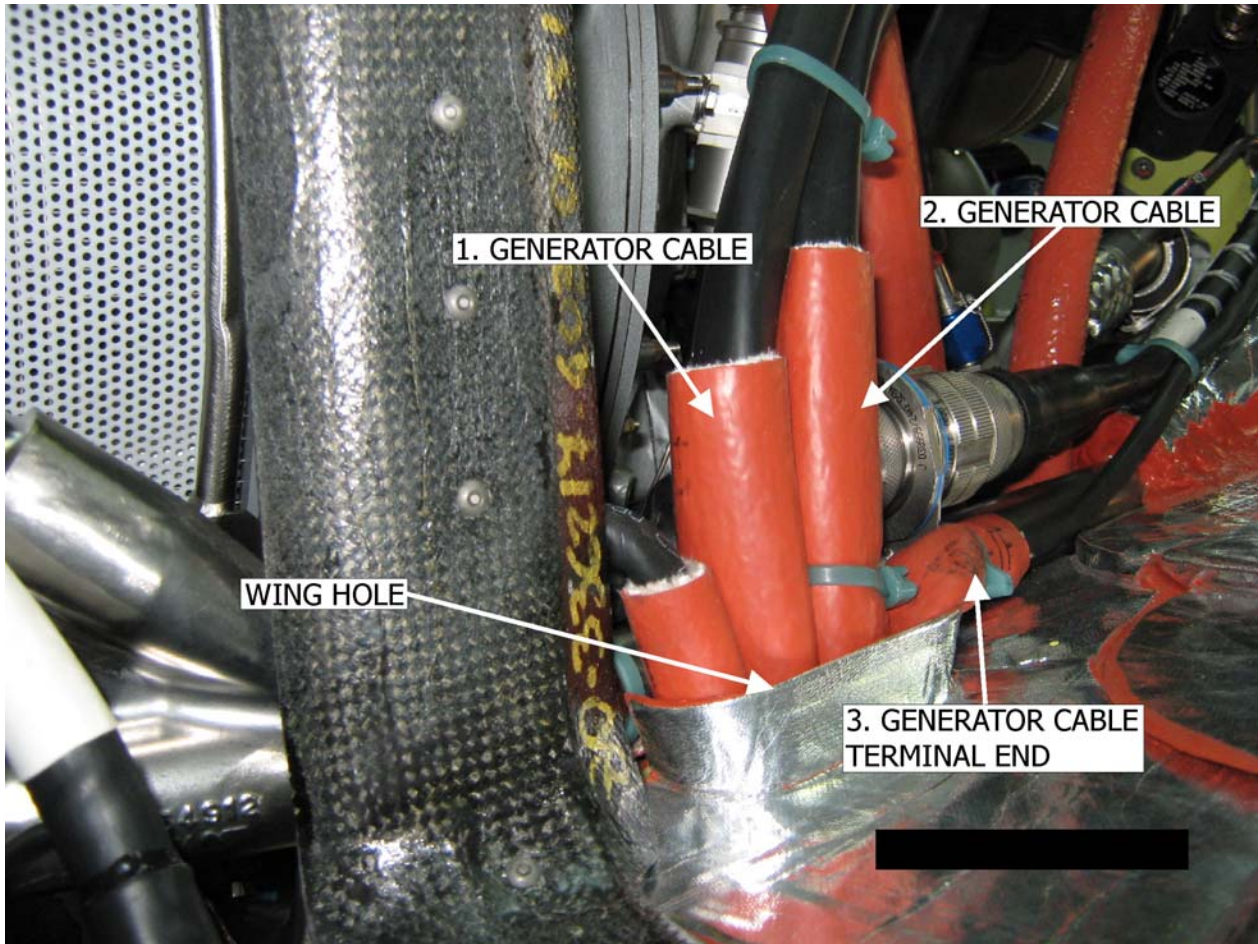

Fig. 214 - LH Generator Power Cables - Repositioning (Airplane SN 1181 +)(Sheet 1 of 7)
- (1) Place the Generator Cables (1, 2) and the Generator Cable Terminal End (3) at the hole located on the wing (Refer to Fig. 214 Sheet 1 of 7).